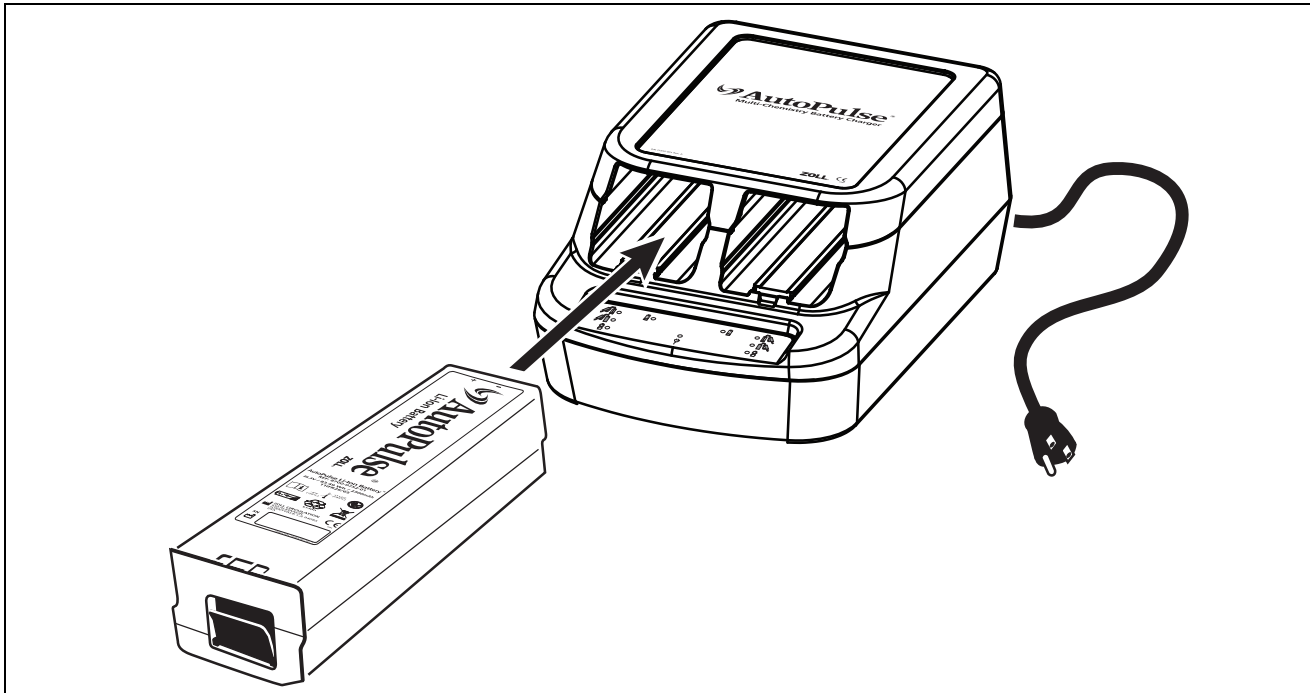

Figure 3-2 Sliding the Battery into a Battery Charger Charging Bay
1. Slide the Battery into an available charging bay (see Figure 3-2). Make sure that the Battery locks into place (locking bar engaged).